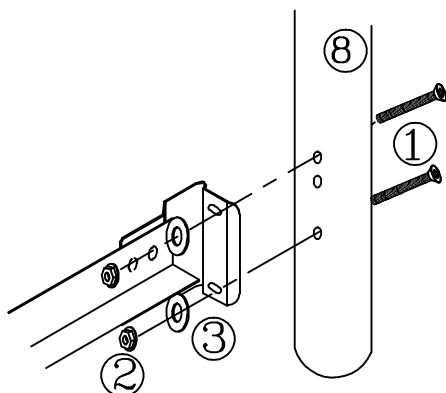

FIGURE 3
- Place 2 screws (1) through holes located in leg (8). (See Figure 3)
- Place a flat washer (3) first and then a nut (2) on each screw. Hand-tighten, DO NOT TIGHTEN screws all the way.
- Tighten all screws securely using the Allen wrench (5) and open wrench (11).